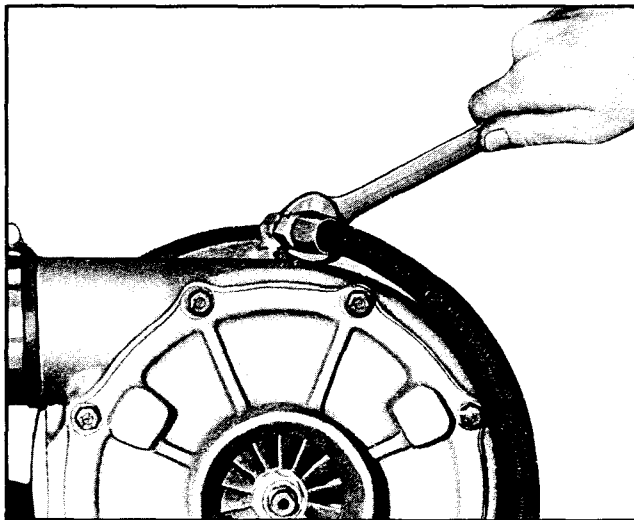

Fig. 4-20. Connect turbocharger oil inlet line
8. Connect oil supply and drain lines. Fig. 4-20.